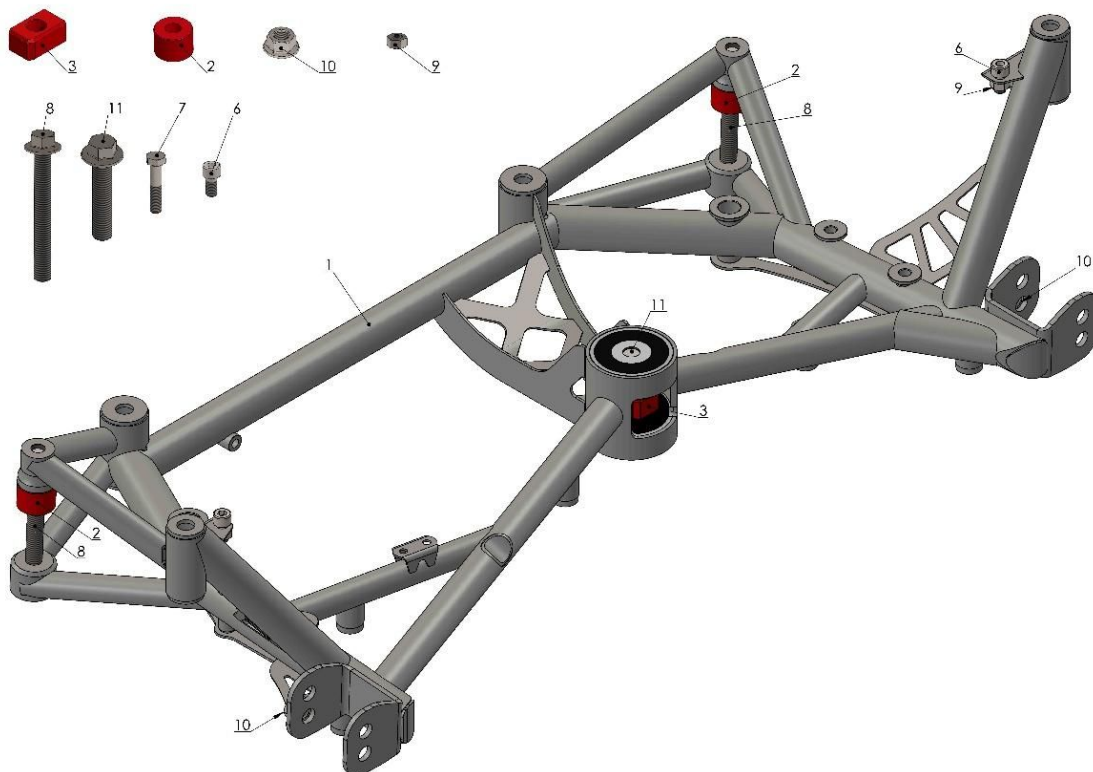

Figure 1 For scope of delivery.
- Install wishbones in mounting points, first install front part of wishbone inside subframe (use provided Hex. Flange Nut M12x1,5), then match rear part. To obtain OEM suspension geometry **install front part of wishbone on the lower mounting hole**. Upper mounting hole can ONLY be used with our tubular lowered wishbones (SKU: WAS-017 or WAS-020). Insert wishbone spacer (*Number 2 - Figure 1*) above rear part of wishbone and secure it with provided Hex. Flange bolt M12x1,5x100 but do not tighten it.